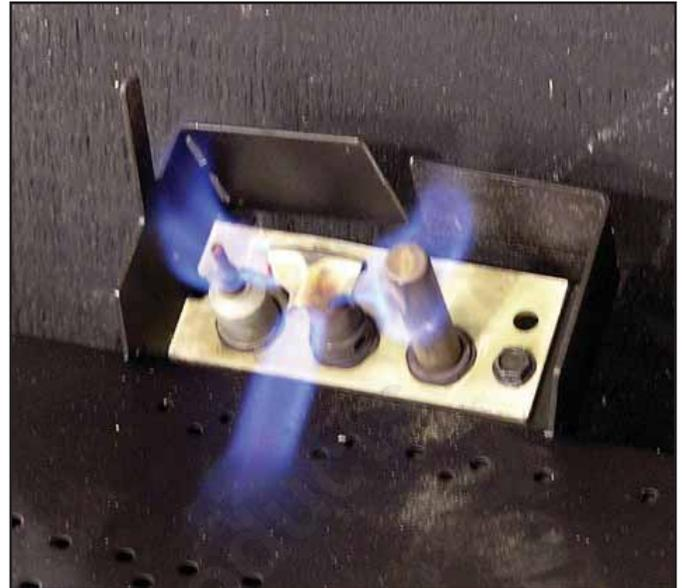

Figure 3.1 Standing Pilot Flame Patterns
- Inspect pilot flame pattern and strength. See Figure 3.1 and 3.2 for proper pilot flame pattern. Clean or replace orifice spud as necessary.